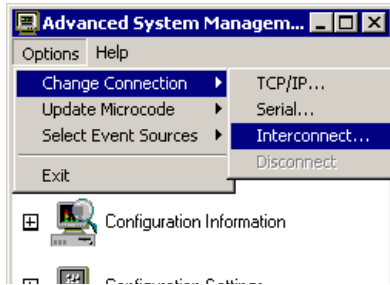

Figure 3-10 *Interconnect SP*
2. Click **Options -> Change Connection -> Interconnect** to attach to the x135 using the RS-485 connection (see Figure 3-10 on page 51).